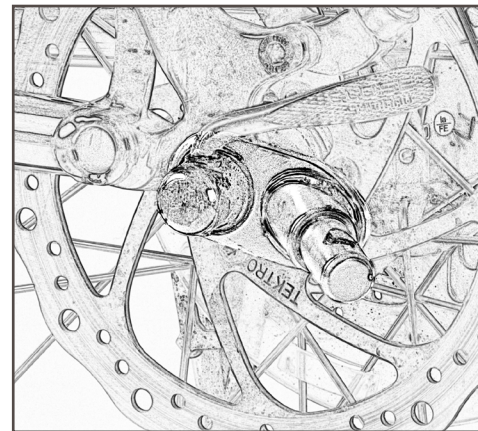

Figure 25
2. Slide hitch onto skewer, with the angled tab facing out, and reinstall the skewer through the axle, position with hitch tab facing rear of bike, roughly parallel to the ground (Fig. 25).